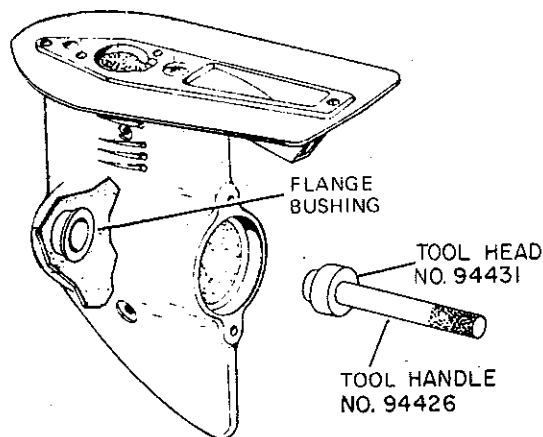

Figure 23. Use tool shown to install flange bushing.
- H. To install the front bevel gear flange bushing into the case, use tool handle number 94426 and tool head number 94431 (Figure 23). Place the flange bushing on the tool and insert the tool in the gear housing; drive in the flange bushing until the tool is seated against the gear housing.